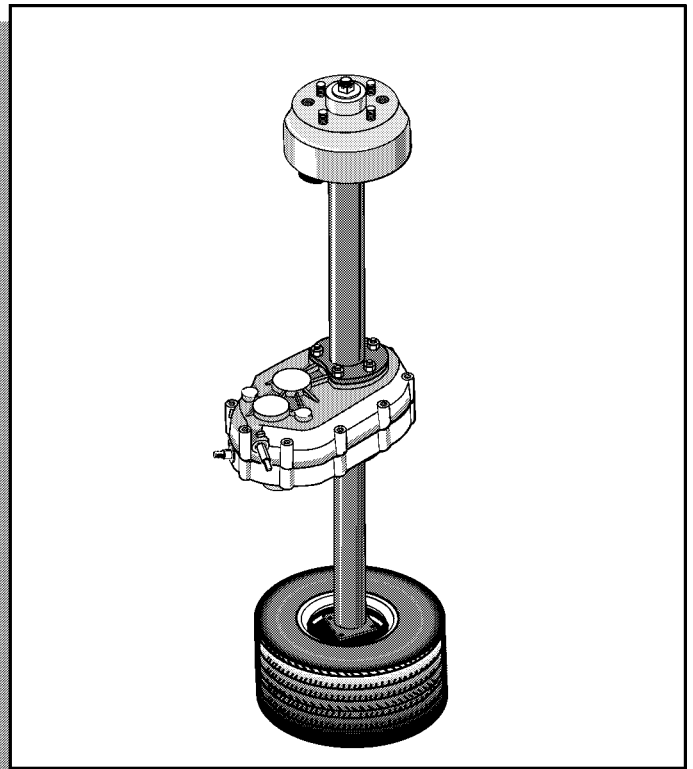

Fig. A-1 Axle Stand
1. Attach a wheel and tire to the brake hub on the driver (clutch) side axle tube and stand the transaxle on end, with the wheel as a base (Ref Fig. A-1 on page A-1).